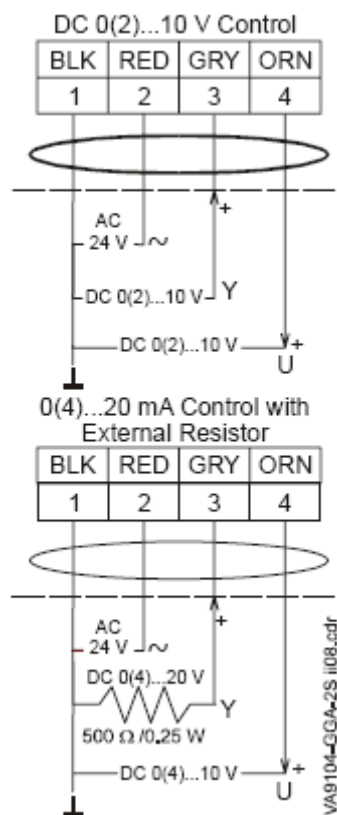

Figure 7: VA9104-GGA-2S Control Wiring Diagram
The VA9104-GGA-2S Series Electric Non-Spring Return Valve Actuators require AC 24 V power and a DC 0(2) to 10 V or 0(4) to 20 mA controller input signal. These electric actuators include an integrated 48 in. (1.2 m) long cable; see Figure 7 for proper wiring.